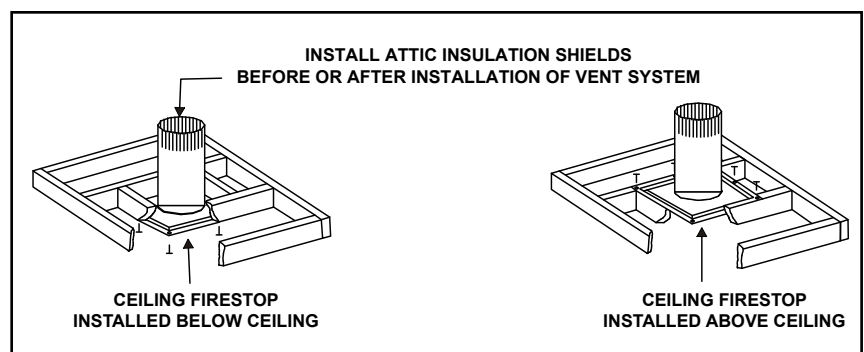

Figure 5.4 Installing the Attic Shield
- The ceiling firestop may be installed above or below the ceiling joists when installed with a attic insulation shield. It must be under joists between floors that are not insulated. Refer to Figure 5.4.